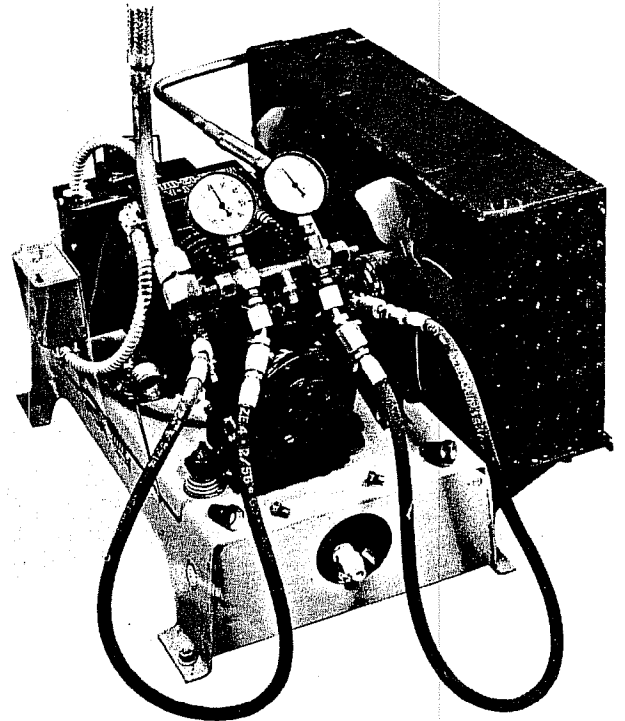

Figure 151
7. Check the compressor suction and discharge pressures while the compressor is operating. (See Figure 151.) Be sure the pressures are within the limitations of the compressor. If pressures are excessive, it may be necessary to clean the condenser, purge air from the system, add a crankcase pressure regulating valve, modify the system control, or take such other action as may be necessary to avoid excessive pressures.